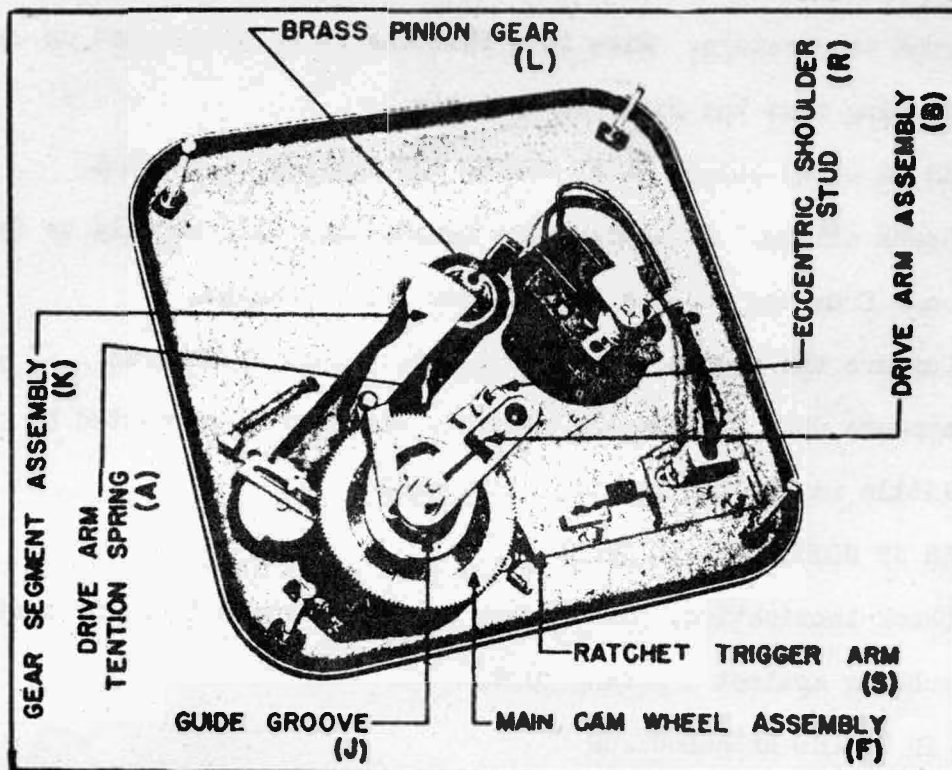
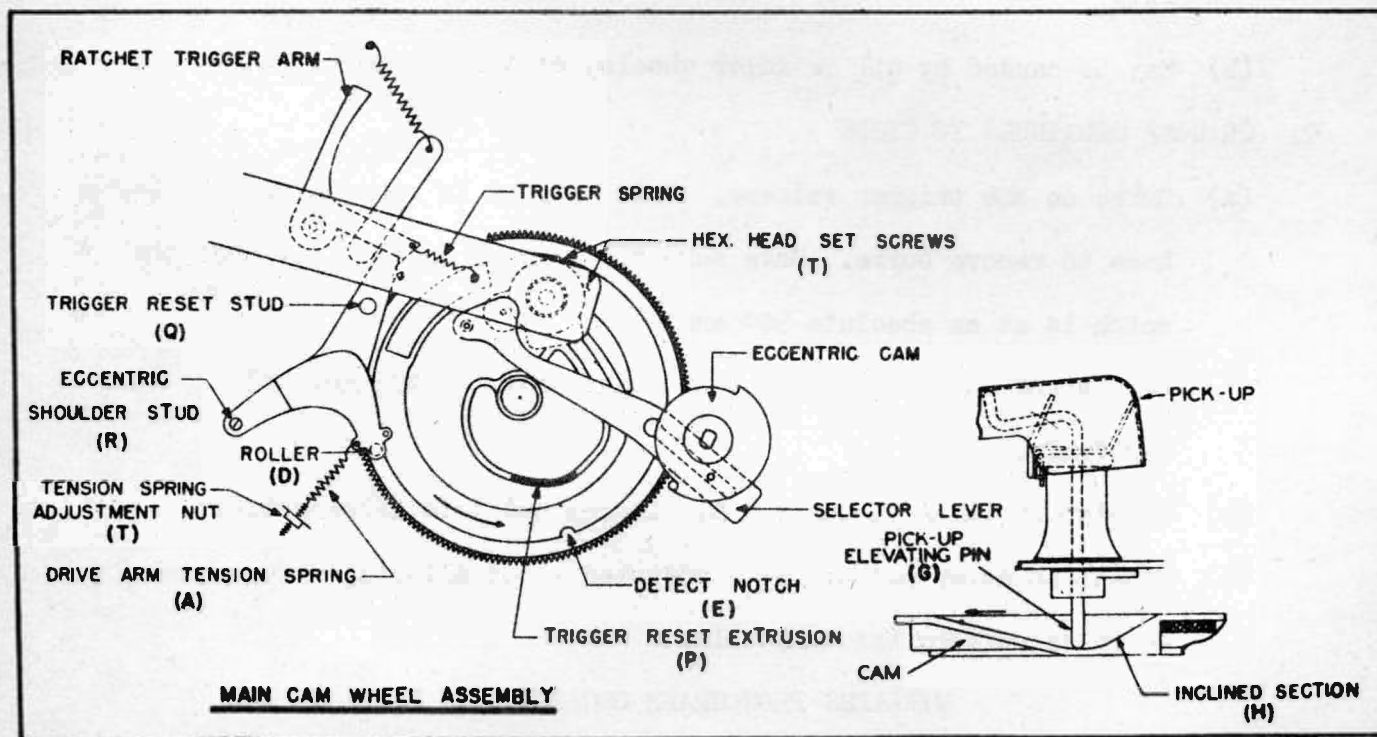
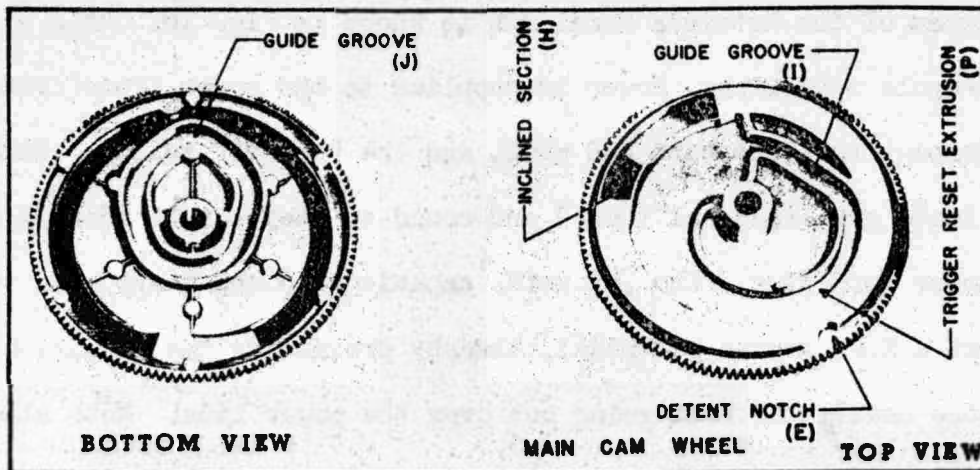
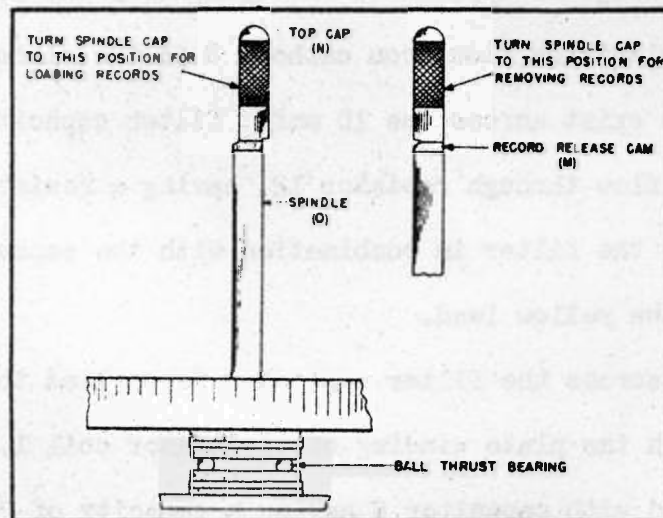

FIG. 12. Bottom view of Models B-14-RC, B-15-RC, and B-16-RC unit without the turntable.
FIG. 13. The main cam wheel assembly used in Models B-14-RC, B-15-RC, and B-16-RC is shown here.
FIG. 14. Bottom and top views of the main cam wheel for Models B-14-RC, B-15-RC, and B-16-RC series.
FIG. 15. Spindle cap details for Models B-14-RC, B-15-RC, and B-16-RC series.
As the needle in the pickup finishes a record and enters the eccentric groove, the tension spring A pulls the drive arm assembly B forward as shown in Fig. 12, starting the change cycle. Once the cycle has started, roller D holds drive wheel C against the turntable by riding out of the detent notch E in the rim of the main cam wheel assembly as shown in Fig. 13. The next few degrees of rotation causes the pickup elevation pin G to ride up on an inclined section H of the main cam wheel, thereby elevating the pickup and lifting the needle from the record which has just been played, as shown in Fig. 14.
A few more degrees of revolution causes the pickup arm through guide groove I in the main cam wheel to swing out over the edge of the record to get out of the way of the next record. The turntable continues to drive the main cam wheel and, through guide groove J in the underneath section of the main cam wheel, guides the gear segment assembly K through its arc which, in turn, drives the brass pinion gear L which swings the record release cam M through a 180-degree arc, aligning it with the top cap N, thereby picking up the next record; and then back 180 degrees into alignment with spindle O, permitting the record to fall on the turntable as shown in Fig. 15.
With the changer in normal playing position, the record release cam should line up perfectly with the spindle as shown in Fig. 15. If it does not, loosen the two slab head screws of the small brass pinion gear, as shown in Fig. 12 and turn the record release cam with the fingers so that it is in perfect alignment with the spindle. Tighten the two slab head screws securely. The tubes should be removed to get at the set screws in the wireless player models.
- D. Using a 3/16" offset box wrench or socket wrench, loosen the two hex head set screws T in the bell crank casting as shown in Fig. 13.